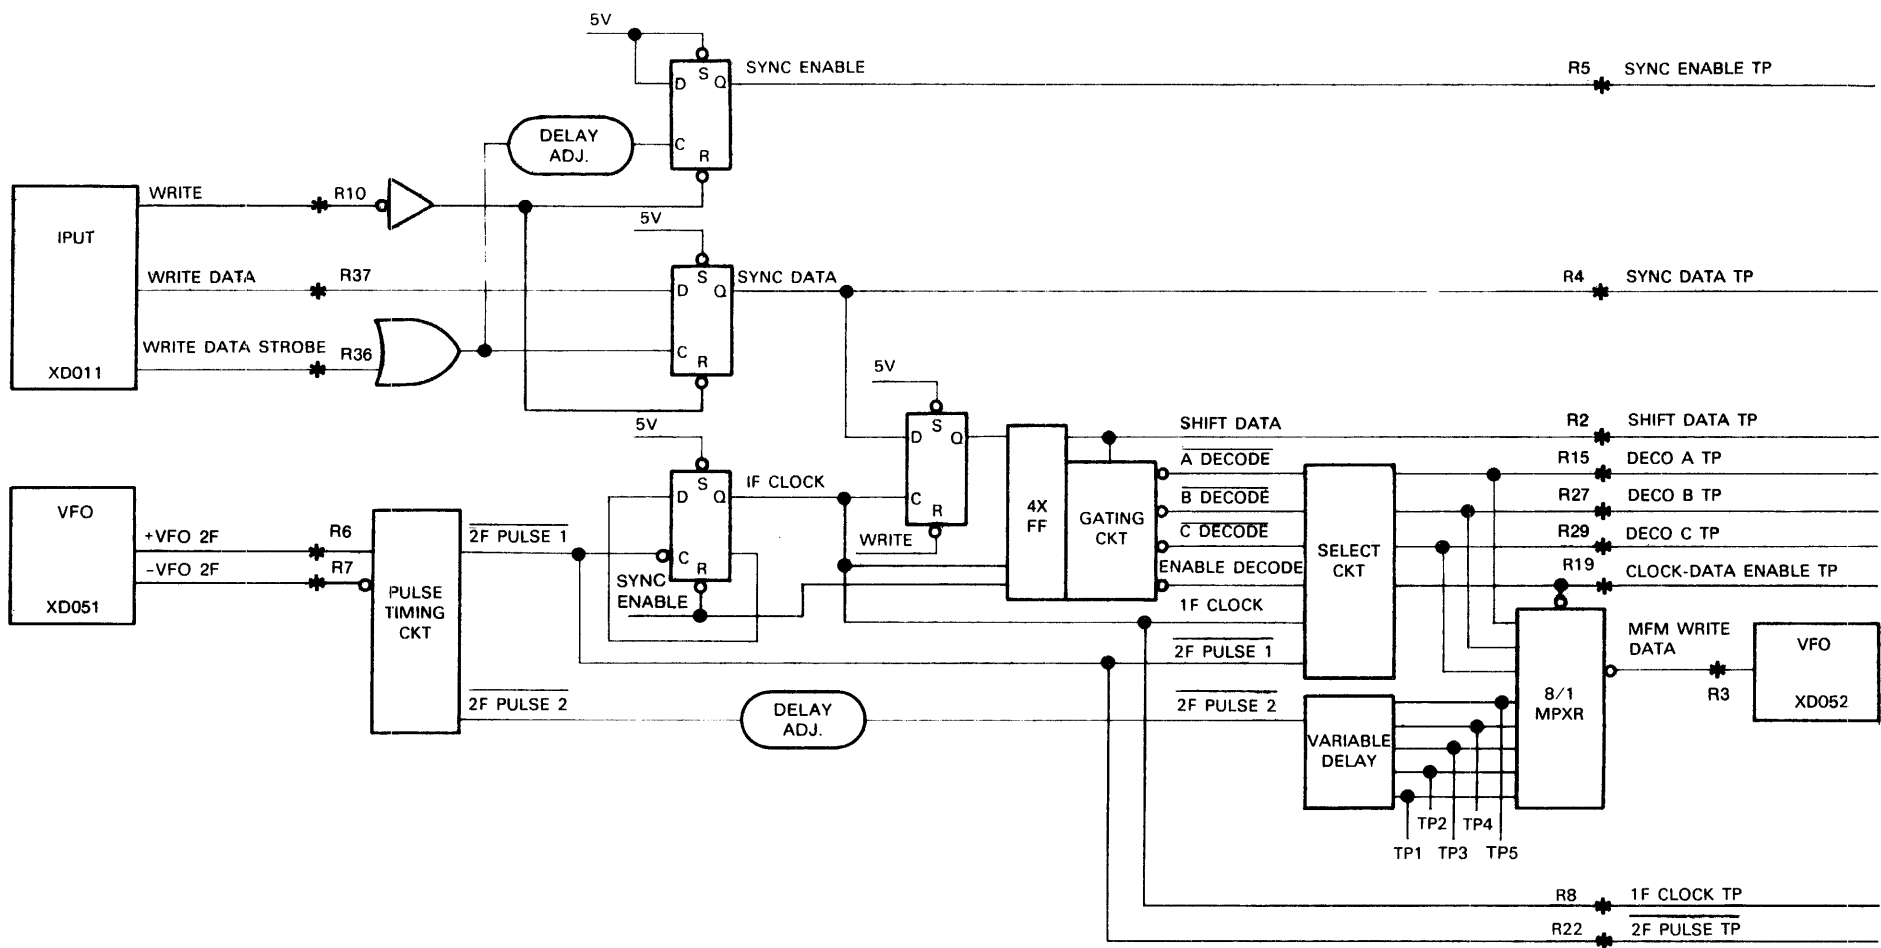
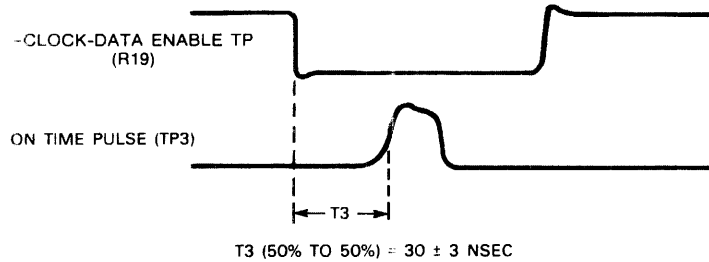

FIGURE 3-7. PRECOMPENSATION PCB (PRCO PCB, D03 LOCATION)
FIGURE 3-8. ON TIME PULSE TIMING
- The block diagram of PRCO logic is shown in Figure 3-7.
summarized in paragraph 3.3.3.3. Output requirements, met at the factory, are summarized below for descriptive purposes and possible customer use in precompensation checking. Refer to the block diagram of PRCO test points in Figure 3-7. Only inputs \pm VFO 2F are ECL levels; all other input and output signals, including Test Points, are TTL levels.
On Time Pulse Timing. The on time pulse (shown in Figure 3-7 as TP3) is adjusted such that its leading edge occurs 30 ± 3 nsec after the trailing edge of $-\text{CLOCK-DATA ENABLE TP}$ (pin R19). Figure 3-8 shows this requirement.
Precompensation Delay Line Timing. Refer to test points TP1 through TP5 shown in Figure 3-7. The pulses at TP1/2/4/5 must have the following timing relationships between their leading edges and the leading edge of the on time pulse at TP3: